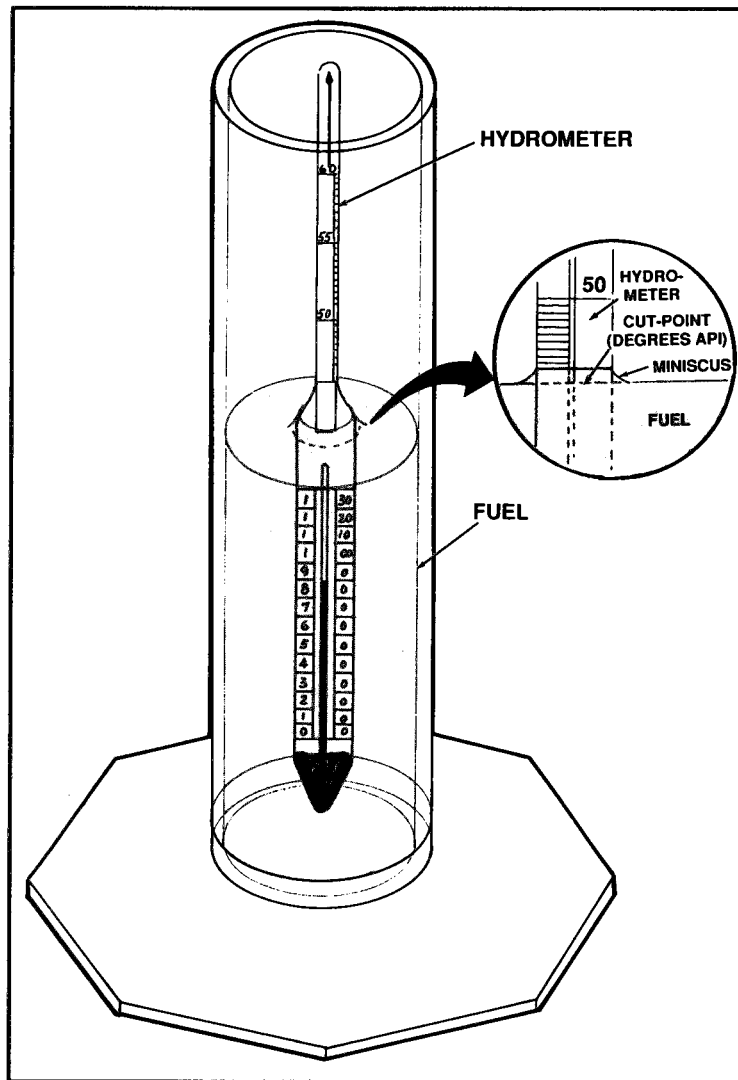

Figure 2.19 Miniscus Cut Point
- d. With the hydrometer in the cylinder, read the degrees API to the nearest 0.1 at the miniscus cut point (Figure 2.19). Remove the hydrometer from the cylinder and take a temperature reading. Record the readings.